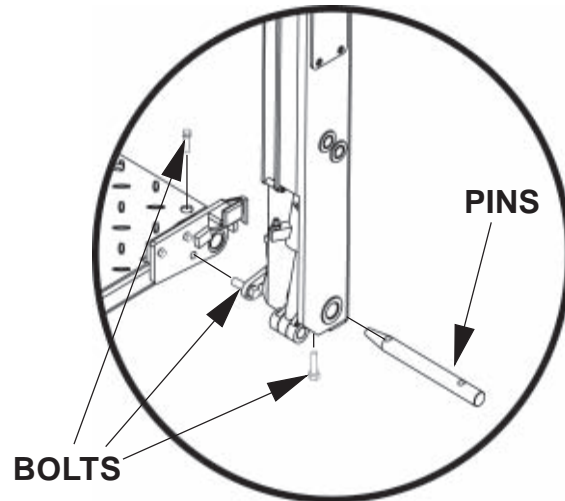

FIG. 14B
23. Re-install the Bolts and Pins (**FIG. 14B**) holding Platform and Connector Bar to LH and RH Runners.